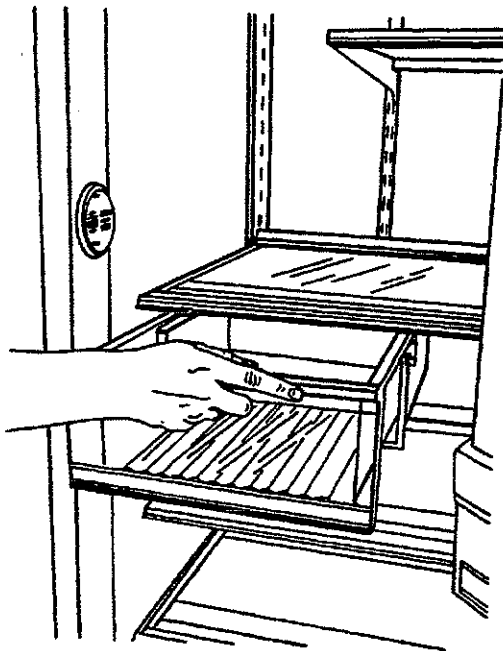

Figure 57
- c. To reposition Deli Fresh Chiller, pull drawer three-quarters out of sleeve. See Figure 57.